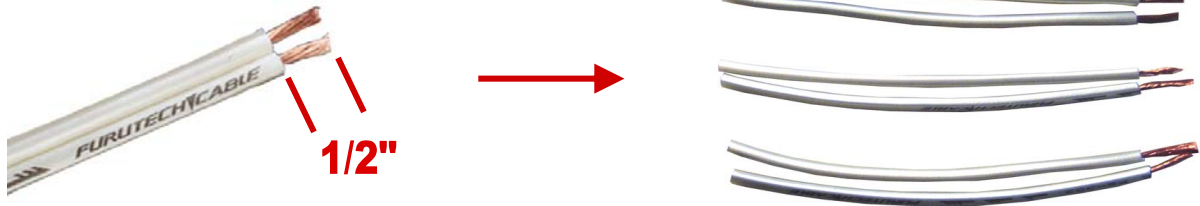

Fig. 14: 3 Pairs of Furutech FS-303 Speaker Cables 2 ft long separated into 6 wires.
19. Use three 2-ft pair of the Furutech speaker cable FS-303 and separate each pair to get 6 single wires ...then strip 1/2" of the insulator off each end (Fig. 14)